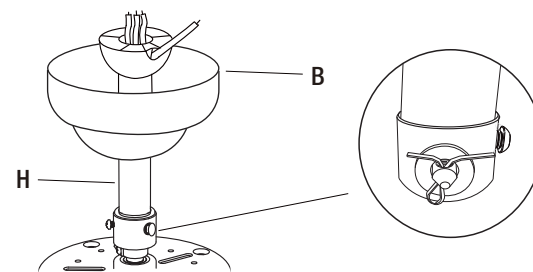

Figure 5
- Loosen the screws first and then insert the downrod assembly (H) into the hanger at the top of the fan motor assembly.
- Push the pivot pin (EE) through the hanger and downrod holes (Figure 5). Pivot pin's insert end is a specially-designed cone shape that pushes away and won't harm the wires inside the downrod. Secure the pivot pin by inserting the split pin and bending the ends to prevent it from falling out of the holes (Figure 5).
- Secure the hanger and downrod by tightening the screws pre-installed on the hanger (Figure 5).